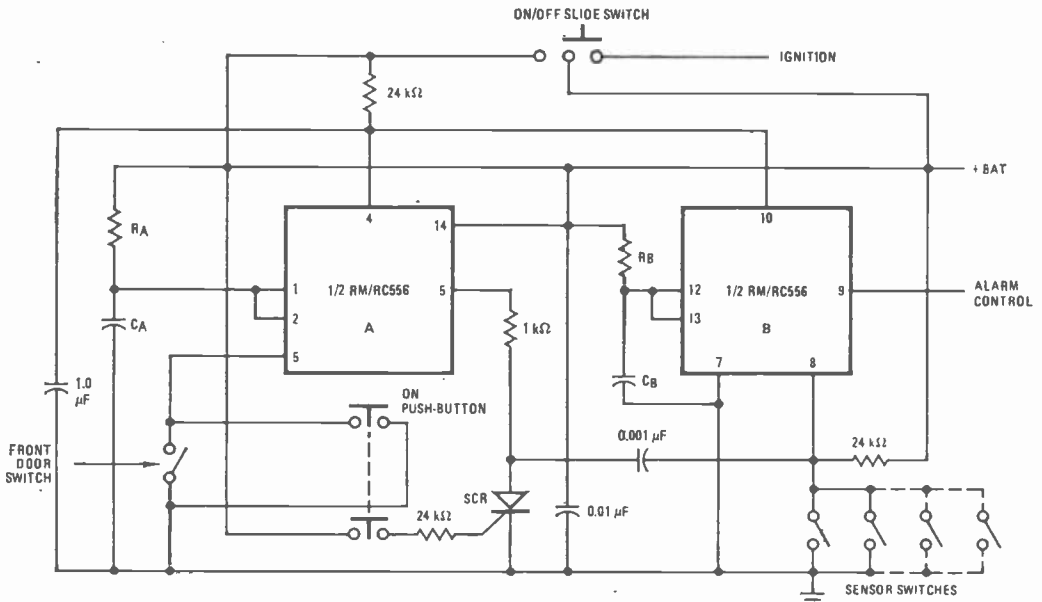

Fig. 2. Auto burglar alarm control circuit uses one timer to provide a delay.
The auto burglar alarm control circuit given in Fig. 2 utilizes one timer section (A) to provide a time delay, thus permitting the driver to enter, exit, or disarm the alarm. This eliminates the need for an easily defeated external "disarm" switch. Note that a